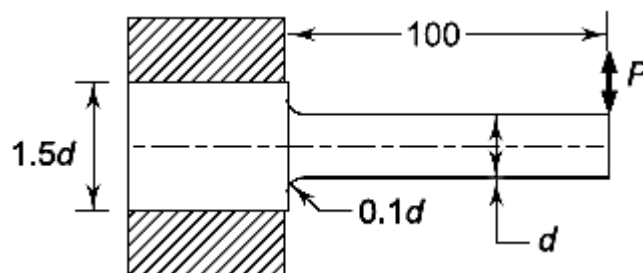

Figure 6.5
7. A cantilever beam made of steel Fe 540 ( $S_{ut} = 540 \text{ N/mm}^2$  and  $S_{yt} = 320 \text{ N/mm}^2$ ) and subjected to a completely reversed load ( $P$ ) of 5 kN is shown in Fig. 6.5. The beam is machined and the reliability is 50%. The factor of safety is 2 and the notch sensitivity factor is 0.9. Calculate: (i) endurance limit at the fillet section; and (ii) diameter  $d$  of the beam for infinite life.